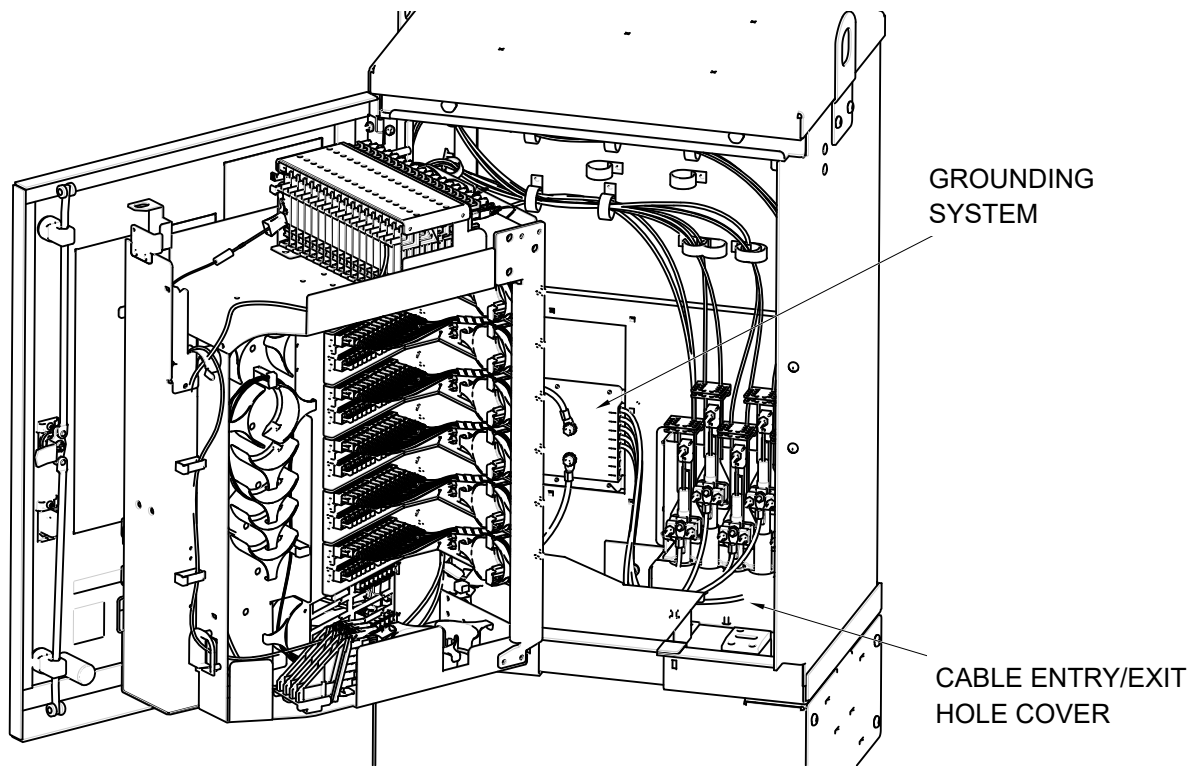

Figure 22. Cable Entry/Exit Hole Cover
- 14.1 Remove the nuts that secure the cable entry/exit hole cover to the bottom of the cabinet as shown in Figure 22. Save nuts for reuse.